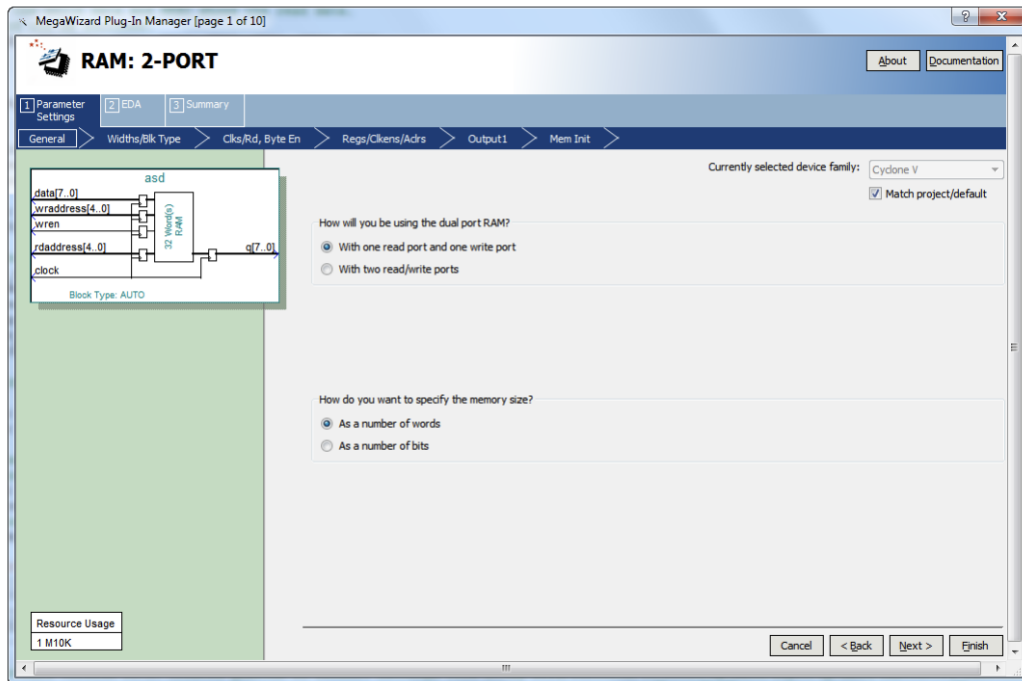
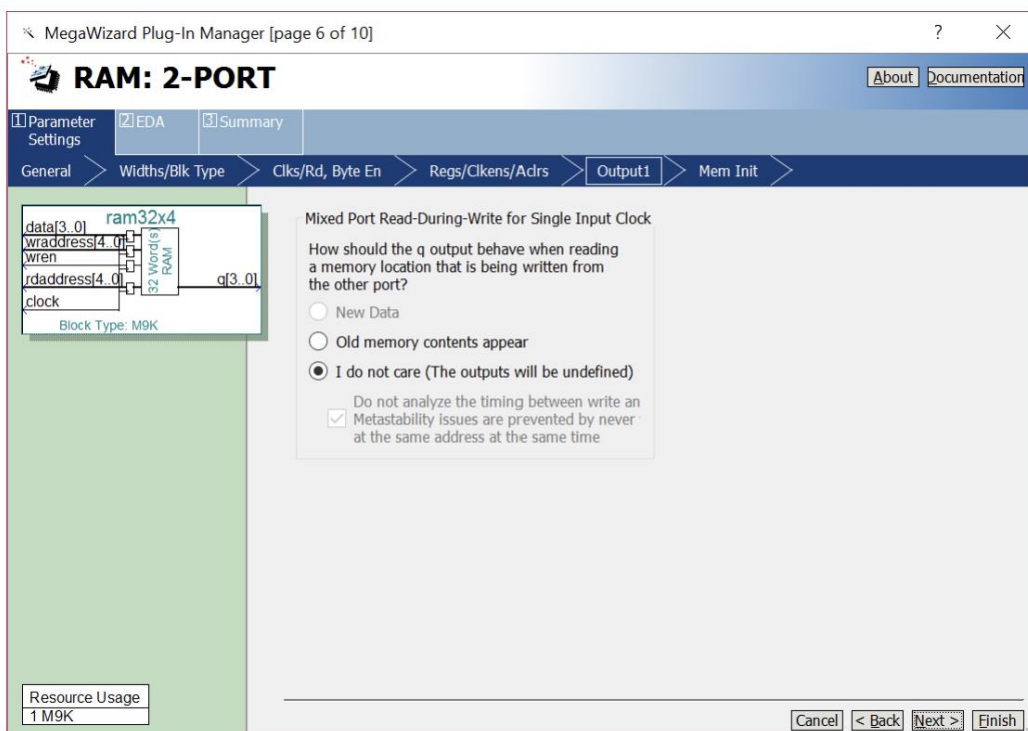

Figure 5: Configuring the two input ports of the RAM.
Figure 6: Configuring the output of the RAM when reading and writing to the same address.
1. Create a new Quartus project for your circuit. To generate the desired memory module open the IP Catalog and select the RAM: 2-PORT module in the Basic Functions > On Chip Memory category. As shown in Figure 5, choose With one read port and one write port in the category called How will you be using the dual port ram? Configure the memory size, clocking method, and registered ports the same way as Part II. As shown in Figure 6 select I do not care (The outputs will be undefined) for Mixed Port Read-During-Write for Single Input Clock RAM. This setting specifies that it does not matter whether the memory outputs the new data being written, or the old data previously stored, in the case that the write and read addresses are the same during a write operation.